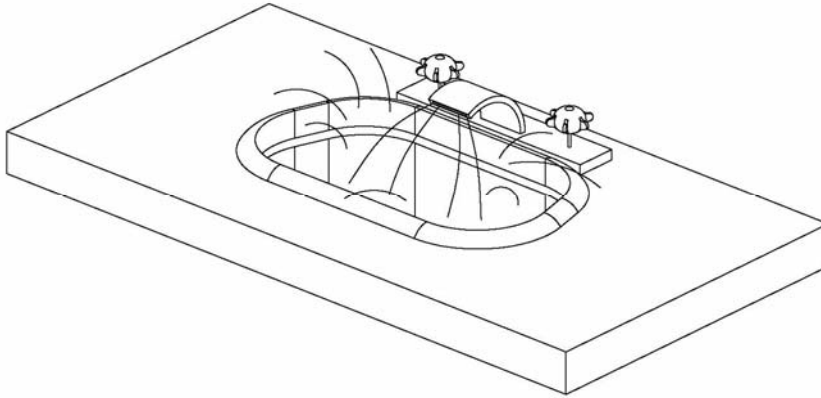

Figure 111
Step 11: If the Inlet Shut-off Valve is installed, the valve will open during the Start-up Sequence. Verify that the valve is open by drawing water from a faucet (specifically hot water). This is shown in Figure 111.